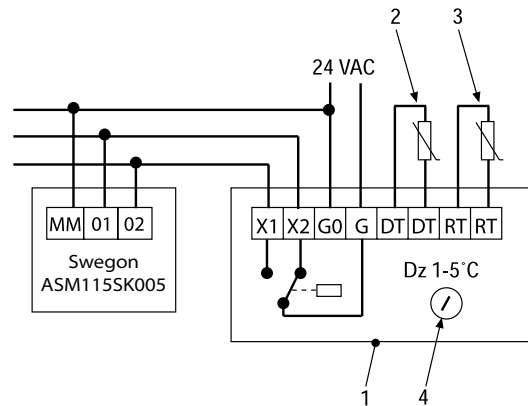

Figure 5. The wiring diagram shows the connections with the Swegon damper motor against the supply air diffuser.
- Key to Figure 5.
- 2 = Duct temperature sensor (DT)
- 3 = Room temperature sensor (RT)